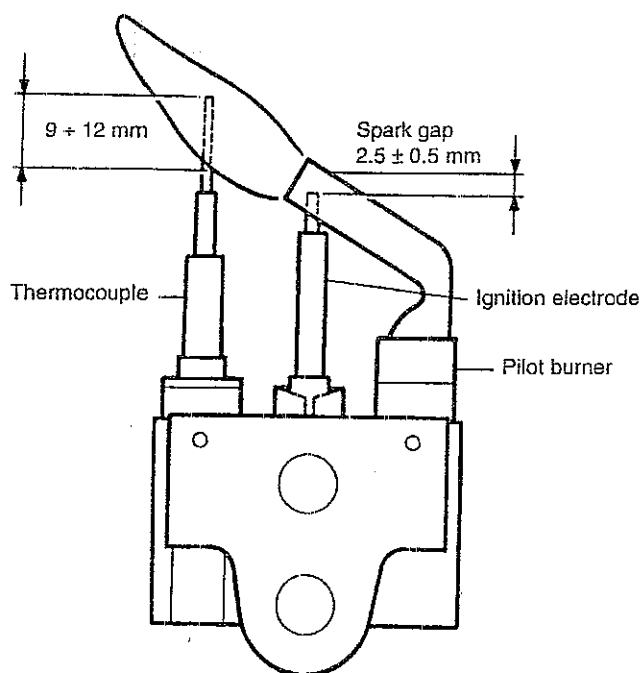

Fig. 35
- j) Re-assemble in reverse order. Ensure that the pilot works correctly and that the pilot flame envelopes the electrode tip (fig. 35)